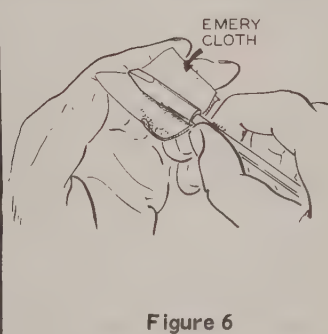

Figure 6
- Smooth the tip with a fine grade of emery cloth. See Figure 6.